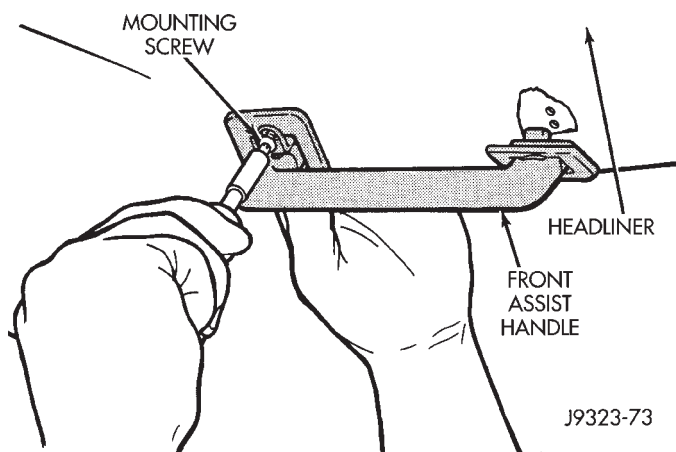

Fig. 18 Assist Handle
- (1) Remove the 2 Torx retaining screws (Fig. 18).
- (1) Position handle on the roof panel and install retaining screws (Fig. 18). Tighten retaining screws to 3 N•m (22 in-lbs) torque.